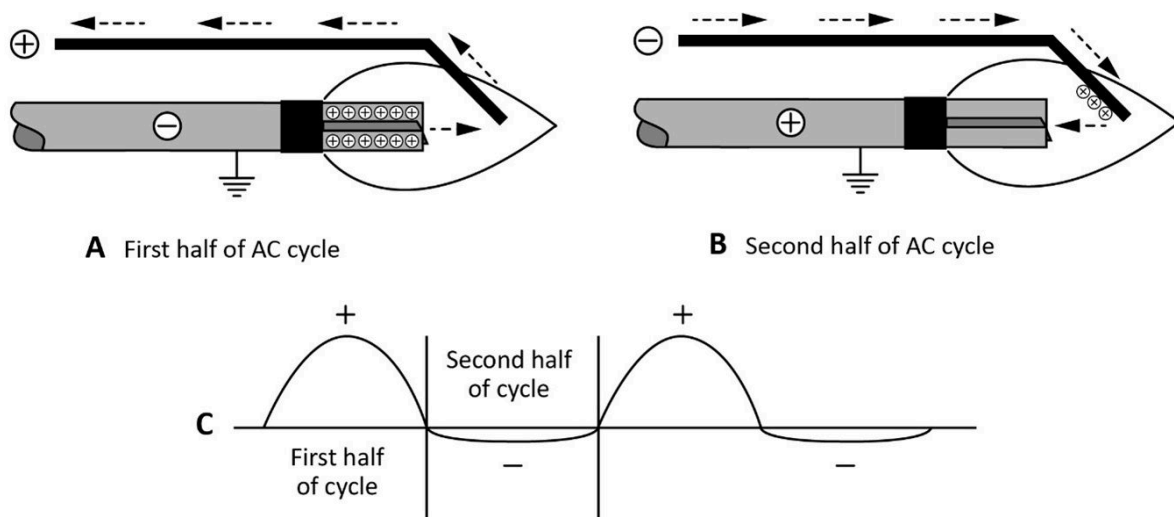

Figure 9 Current flow in a flame rectification system
For a rectified system, when an AC supply voltage is placed across the two electrodes during the first half of the AC cycle, the flame rod is positive and the grounding area is negative (Figure 9 A). The positively charged ions collect on the negative charged grounding area. Since the grounding area is very large, it holds many ions. The positively charged ions pull a high stream of electrons into the flame, more than if the grounding area was the same size as the flame rod. This results in a high current flowing from the grounding area to the flame rod during the first half cycle of the AC supply voltage (Figure 9 C).
During the second half cycle, the reverse process takes place (Figure 9 B). However, the capacity of the
- Figure 9 “Current flow in a flame rectification system” by Camosun College is licensed under a CC BY 4.0 licence (<https://creativecommons.org/licenses/by/4.0/>).